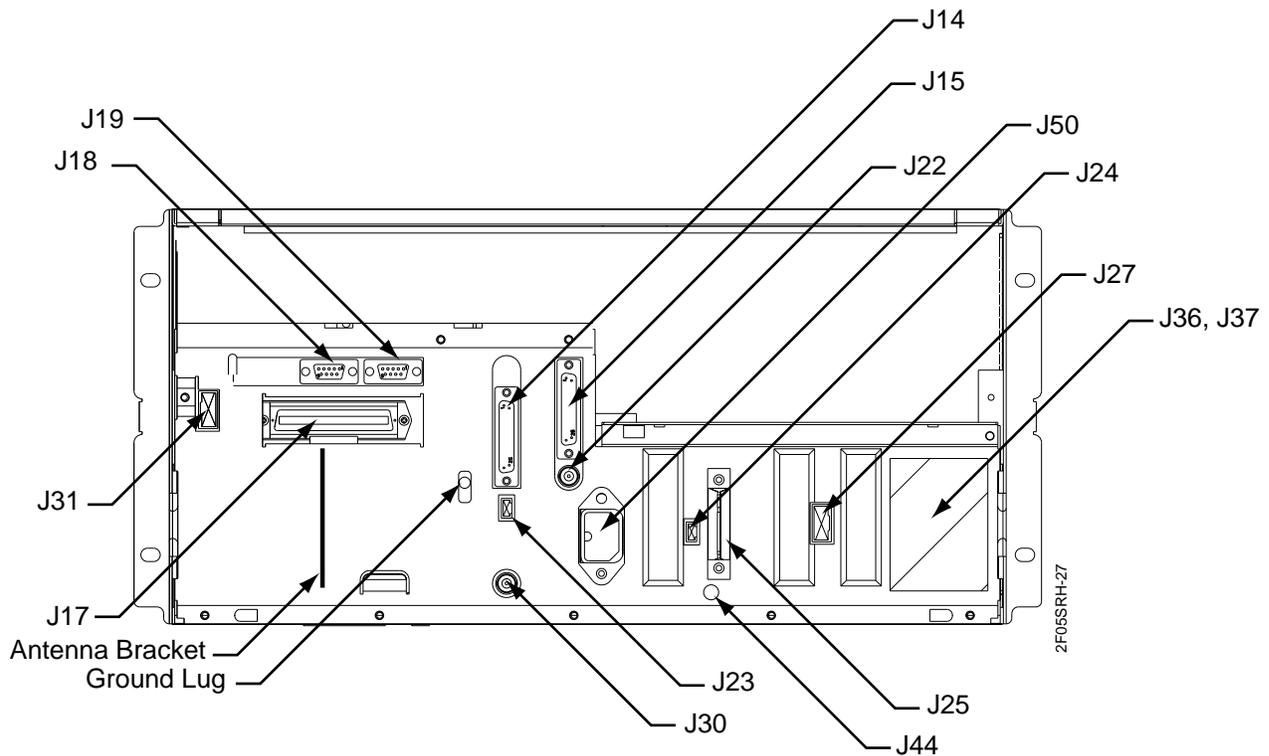

Figure 5-2: Backplane Connectors for a Standard Power Station
- Standard power station (see Figure 5-2 and Table 5-1)